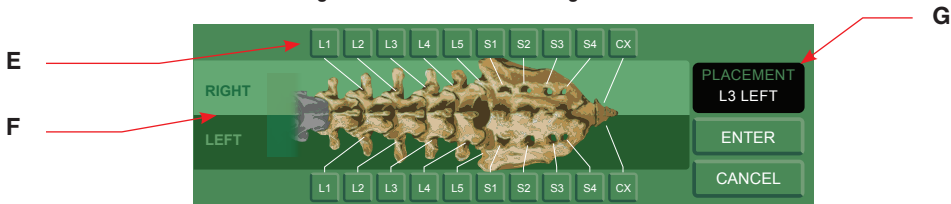

Figure 29 Typical CHOOSE PLACEMENT Dashboard [LUMBAR]
- 3. Touch the appropriate preset placement button to identify the spine location where the cannula will be placed (see figure 29). Touch the ENTER button to confirm the location. The selected placement location will be displayed in the placement location window of each procedure screen.